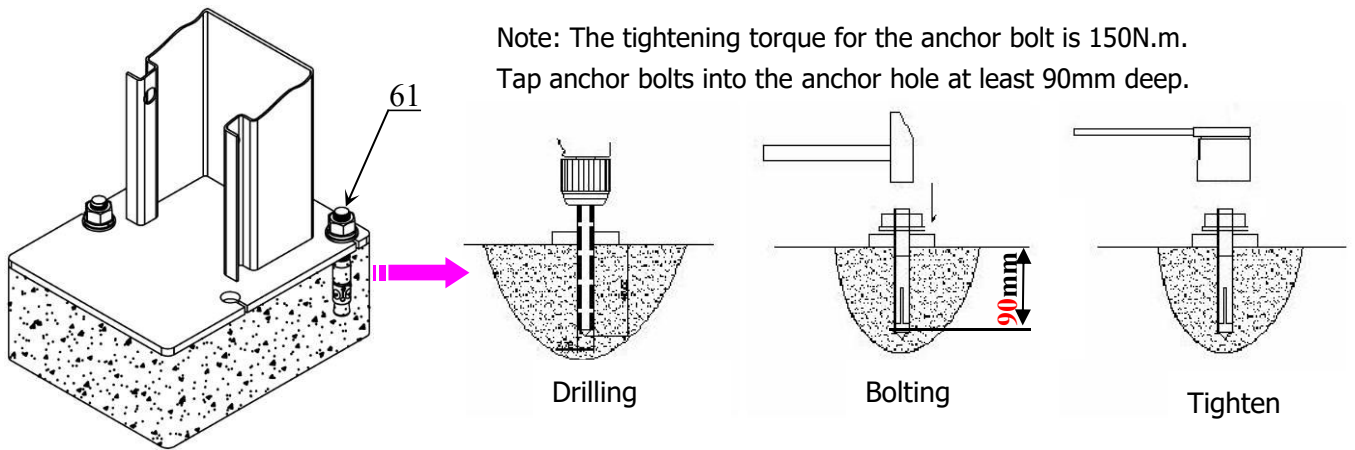

Fig.39
2. Adjust the column with the leveling bar and leveling pad , drill the anchor hole and install the anchor bolts. Tap the anchor bolts into the anchor hole with a hammer and tighten the bolts.(See Fig.39)